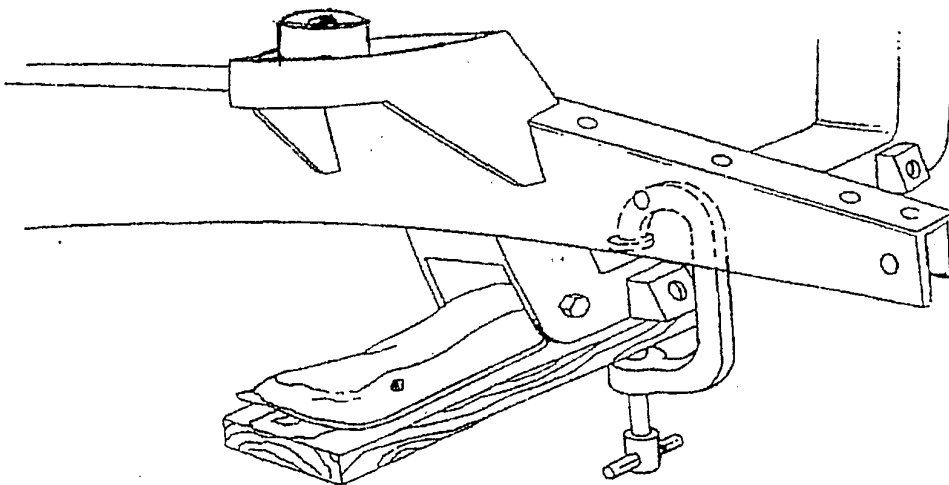

Figure 3
7. (If you use the Heidi's Full Lower A-Arms, you can skip to the last page of these instructions). To install the stock strut rods, you will use the lower control arms and strut rods for locating the rear strut rod plates and gussets. Using a 2x4 and a C-clamp, install the stock control arm and strut rod as shown in figure 3. The Pinto and Mustang II strut rods are different angles. We recommend the Pinto strut rods, as they will position the strut rod plates more closely to the underside of the frame. The Mustang II strut rods can be used, however, by heating the strut rods at the elbow and bending them out enough to align the strut rod plate under the frame. Now, assemble onto the ends of the strut rods, the large rubber bushings, including the cupped washers, and the strut plate. See figure 6. Be certain to tighten the nut on the strut rod to its' fully seated position. The ends of the strut rods are not meant to be adjustable. Make sure the nuts are fully tightened. The strut rod will act as a fixture while you tack weld the plates and gussets in place. Remove the strut rods and bushings and finish welding the plates and gussets in place.